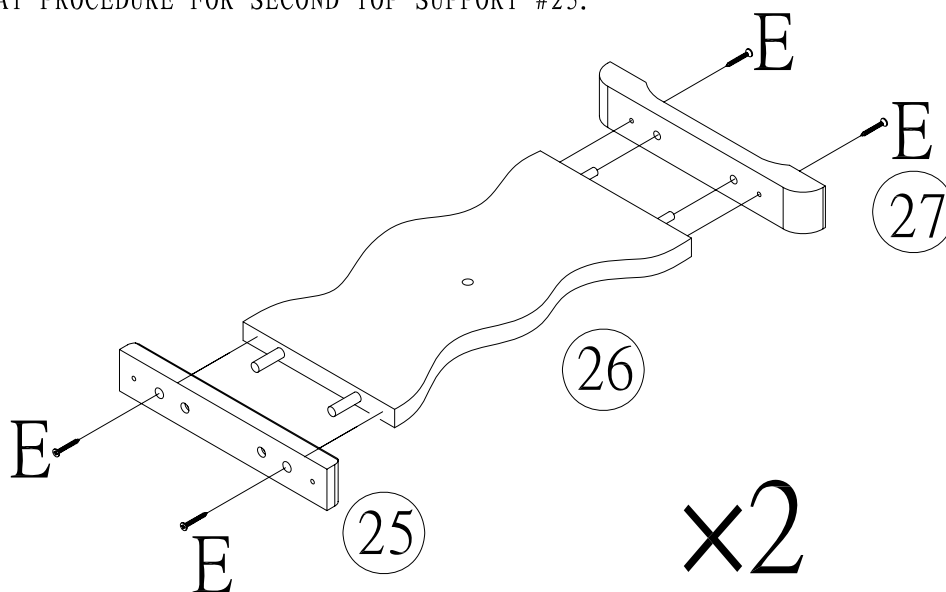

FIGURE 2
- 1) ATTACH SEAT BASE #27 TO LEG #26 THROUGH FITTING DOWELS LOCATED AT LOWER END OF LEG #26 INTO HOLES LOCATED ON UPPER EDGE OF BASE #27 USING PRE-DRILLED HOLES AS GUIDE, SECURE CONNECTION WITH (02) SCREWS (E). DRIVEN WITH ALLEN WRENCH (J) AS SHOWN IN FIGURE 2. REPEAT PROCEDURE FOR SECOND LEG #26.
- 2) ATTACH TABLE TOP SUPPORT #25 TO LEG #26 FITTING THE DOWELS LOCATED ON UPPER END OF LEG #26 INTO HOLES LOCATED ON SUPPORT #25. USING PRE-DRILLED HOLES AS GUIDE, SECURE CONNECTION WITH (02) SCREWS (E) DRIVEN WITH ALLEN WRENCH (J) AS SHOWN IN FIGURE 2. REPEAT PROCEDURE FOR SECOND TOP SUPPORT #25.